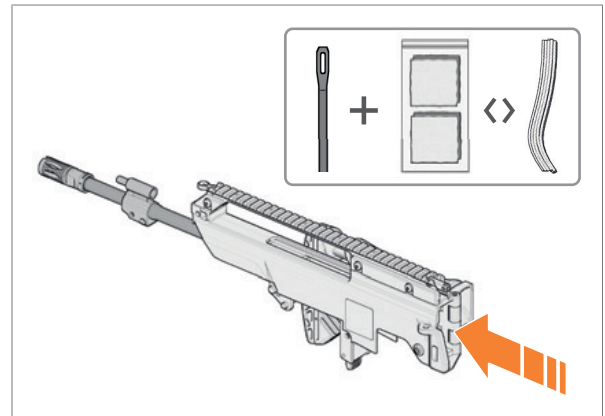

Fig. 111: Clean barrel
10. Pull clean cleaning pull-throughs / cleaning cloths through the barrel to remove heavy soiling (Fig. 111).